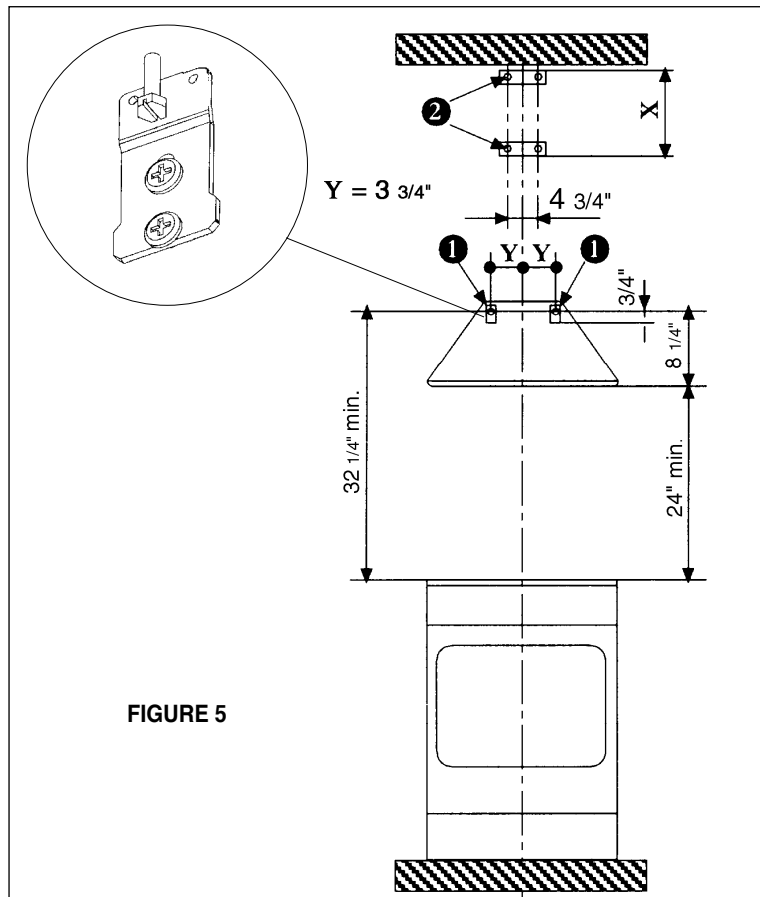

FIGURE 5
3. The canopy attaches to the wall by two mounting brackets (**1 in FIGURE 5**). The canopy of the rangehood hangs on the two brackets which must be mounted with the flanges on the top of the bracket and pointing away from the wall. Before installing the brackets, the adjustment screws must be installed into the bottom of the bracket. These two screws are provided in the hardware package and have hexagon heads with a slot for a flat blade screwdriver. The dimensions illustrate mounting the canopy 24" above the cooking surface.
4. The chimney mounts by two brackets (**2 in FIGURE 5**). Note the position of the brackets. The top bracket should be installed about 1/8" away from the ceiling. The bottom bracket must be installed at the bottom point of the upper chimney sleeve. Determine the proper location for each bracket and install the brackets on the wall. **MAKE SURE THAT THE BRACKETS ARE SECURELY FASTENED TO THE WALL.**